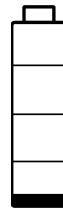

FIG. 3
- C Battery Indicator - When the batteries are fully charged, the battery is completely filled in. As the battery discharges, the amount of battery that is filled declines. When the low battery symbol shown in FIG. 3 is shown, replace the batteries. See Battery Replacement, page 27.